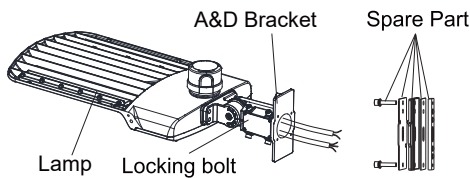

Figure 13
Step 1: Remove the spare parts from ADM bracket. (Figure 13).